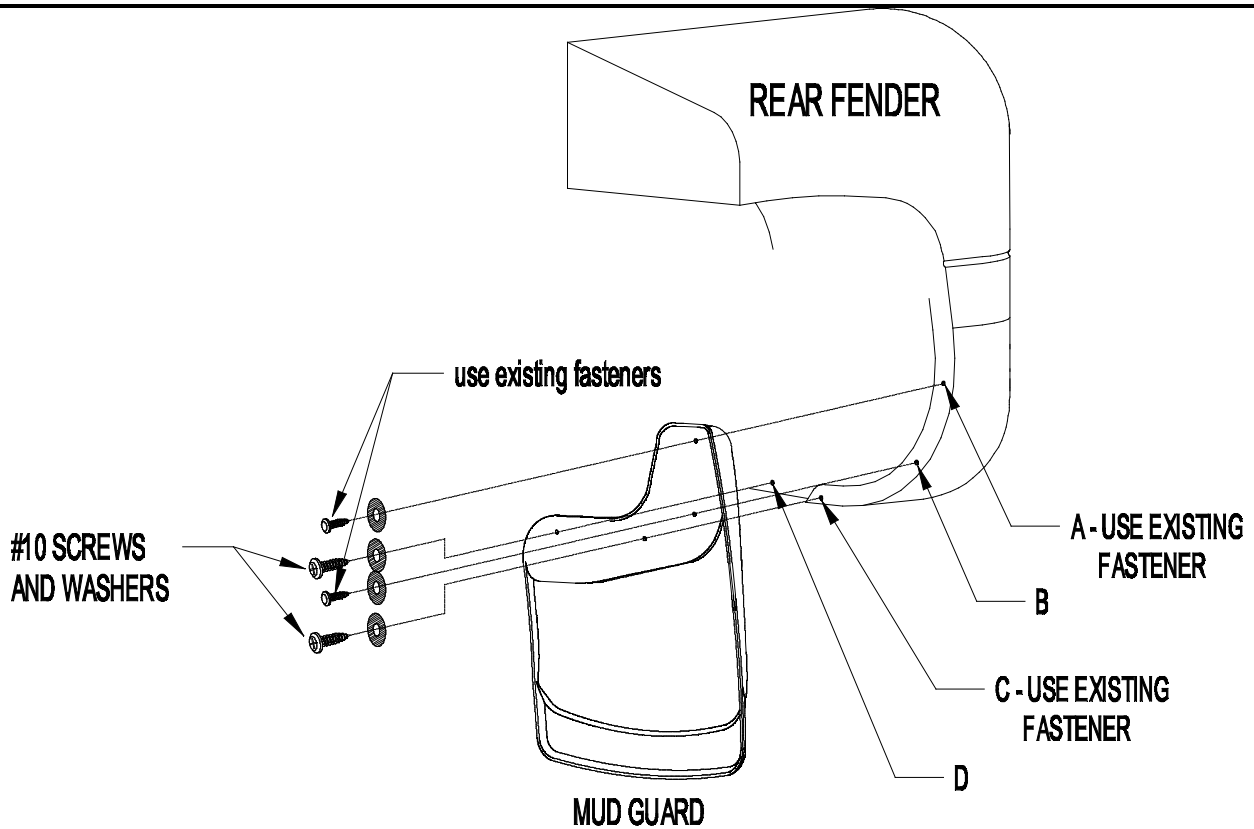

Figure 1.
2. Remove existing fasteners from locations A and C (Figures 1).
4. Using mud guard as a template, mark, center punch, and drill 1/8" holes at locations B and C and attach with a #10 screw (Figure 1).